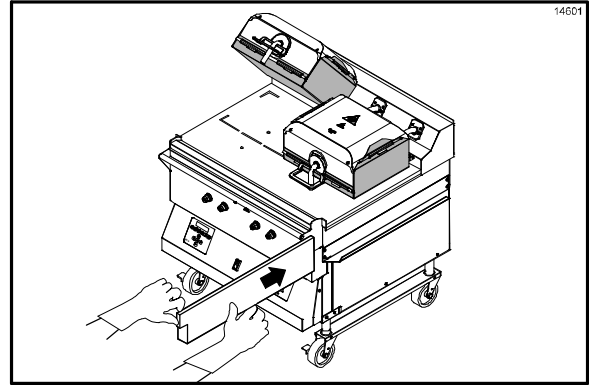

Figure 64
38. Re-install the grease pans. (See Figure 64.)